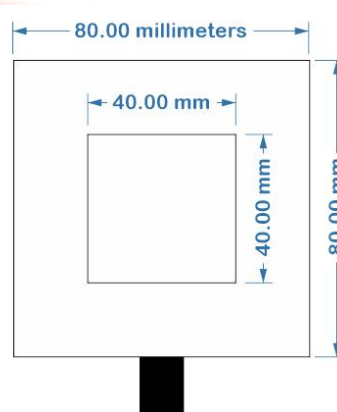

Figure 3: Pick-up and Deposit Block Dimension
- The size of the deposit block is shown in Figure 3